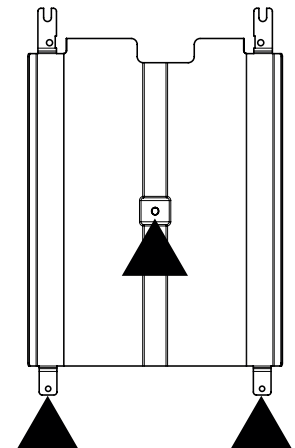

Figure 14b
- The flame spreader is attached with two tabs or shoulder brackets and secured with three screws. Remove the screws, slide flame spreader back, and lift the spreader out of the oven cavity (see Figure 14b).